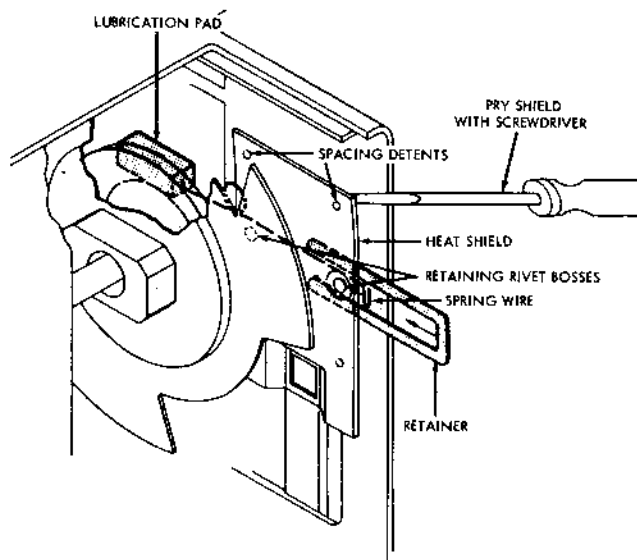

Figure 11A. Cam Lubrication Kit Installation
c. Cam Lubrication Kit Installation - Install cam lubrication kit, part no. 39002-G2, into all projectors. The kit consists of two parts: the pad assembly, part no. 39002-G1, and the retainer, part no. 39001 (see Figure 11A). Proceed as follows: Remove all lubricant from cam surfaces of shutter and cam assembly (192, Figure 19) with Chlorothene. Dry surfaces thoroughly. Lubricate pad with 0.5 cc (25 drops) of Cosmolubric 270. Install pad into projector, so that it rests on cam surface; slide the spring wire behind the heat shield in front of lamp housing, as shown in Figure 11A. (Pry heat shield away from projector housing with